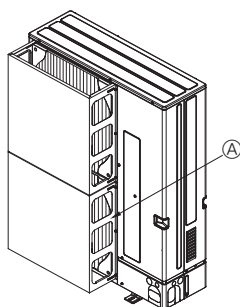

Fig. 4-4
- Install an optional air guide if the unit is installed in a location where strong winds from a typhoon, etc. may directly enter the air outlet. (Fig. 4-4)